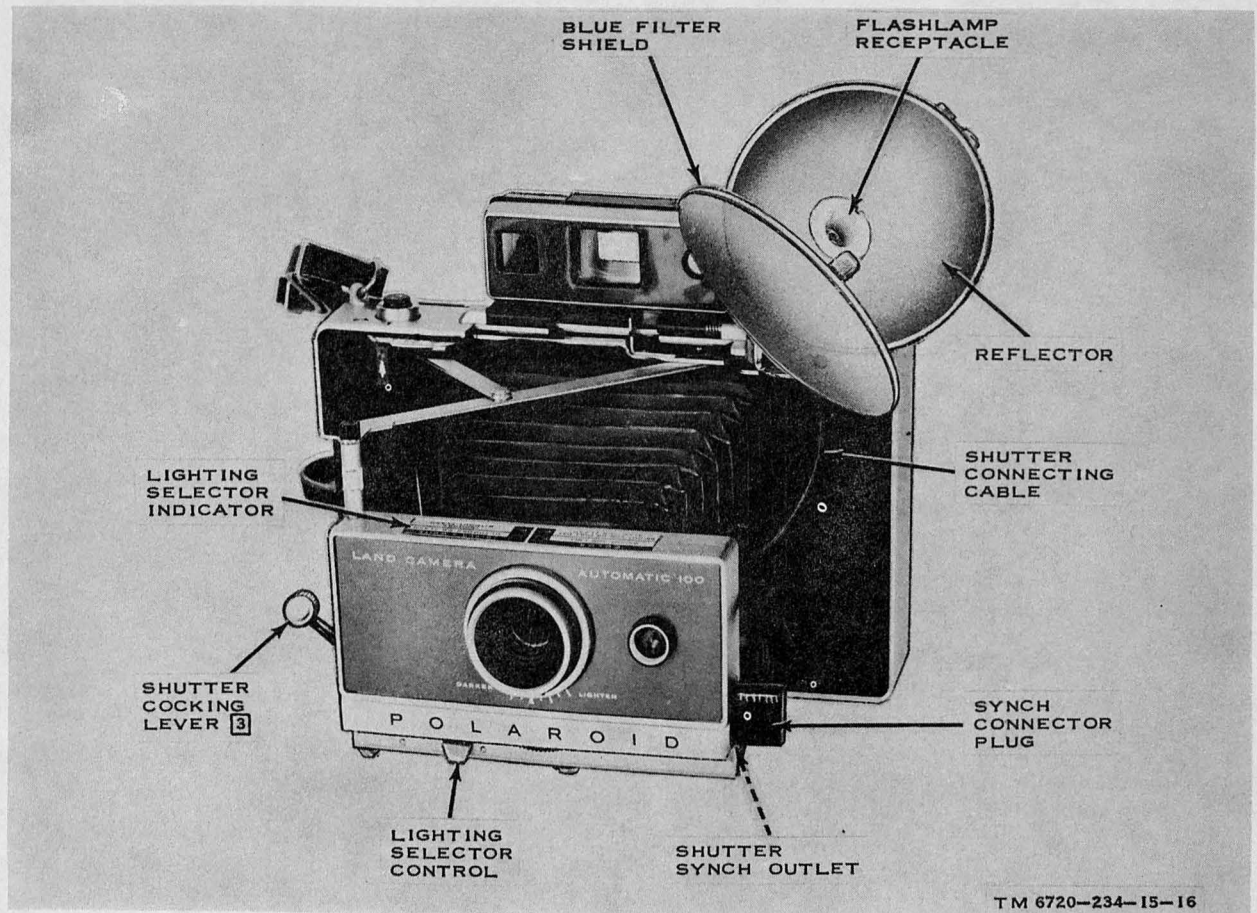

Figure 3-6. Camera with flashgun mounted and reflector assembly positioned for direct flash.
d. Do not connect the polarized synch connector plug (fig. 3-6), on the end of the shutter cable, to the shutter synch outlet until such time as photoflash pictures are to be taken.
f. Move the lighting selector control (fig. 3-6) in the direction that positions the indicator, in the lighting selector, opposite the lighting condition that applies.